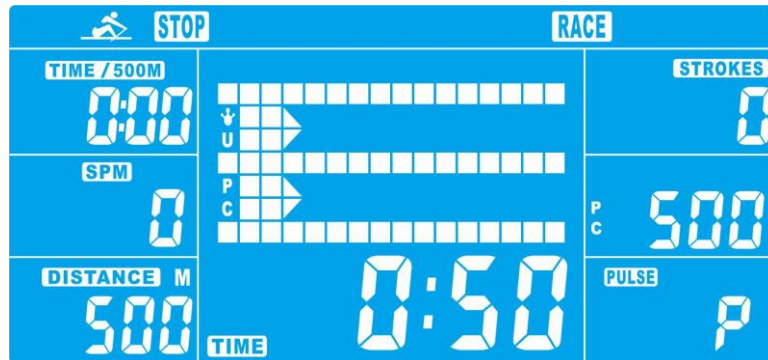

Fig. 14
- d. Once a target value is achieved, the machine will stop. Final data of the PC and USER will be displayed (Fig. 14). The control panel will start emitting a sound. (Press any key to stop the alarm.)